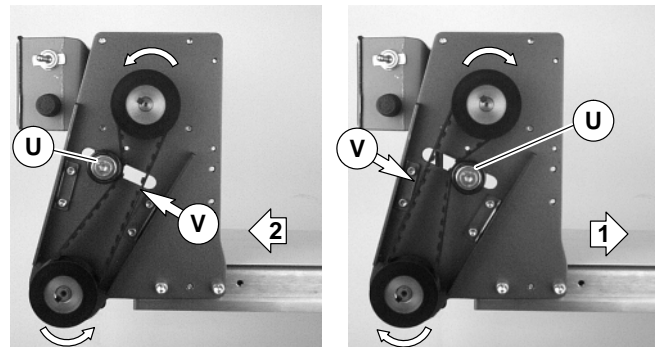

Figure 7
7. Depending on direction of conveyor belt travel (1 or 2 of Figure 7), position timing belt tensioner (U) as shown. Tension timing belt to obtain 1/8" (3 mm) deflection for 1 lb (456 grams) of force at timing belt mid-point (V). Tighten tensioner screw to 106 in-lb (12 Nm).